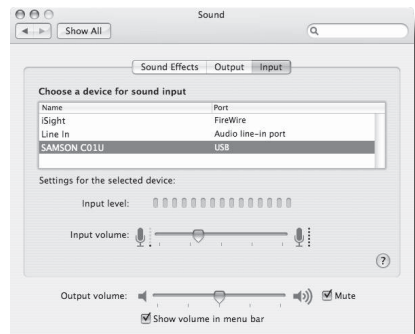

Figure 3
4. Now, click in the Input tab and select SAMSON C01U (figure 3).